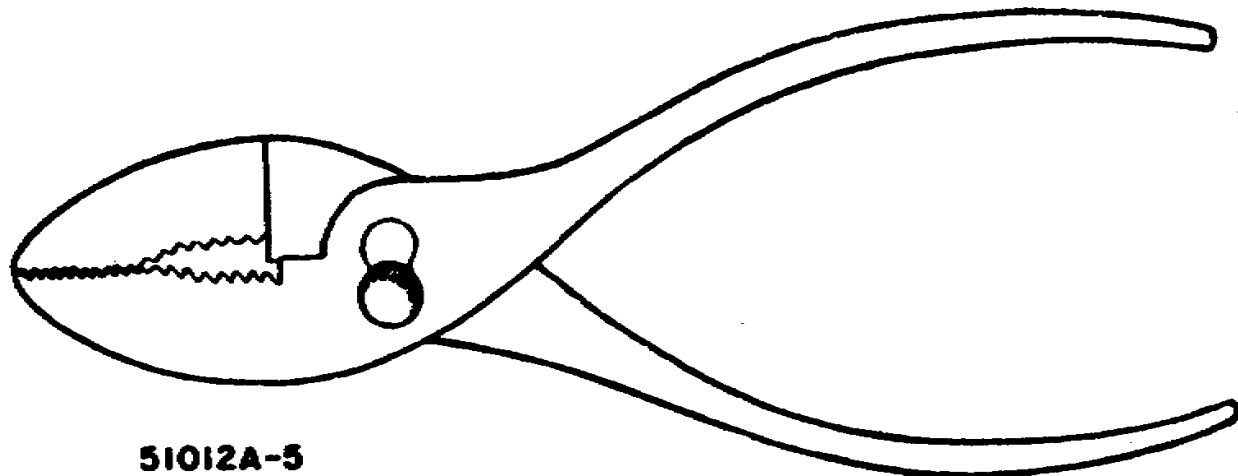

Figure 1. Slip-joint pliers.
- (1) Slip-joint pliers (fig. 1). The slip-joint arrangement lets you open the jaws of such pliers wide enough to grasp a wide assortment of objects. That's why this type is so often found around the home.